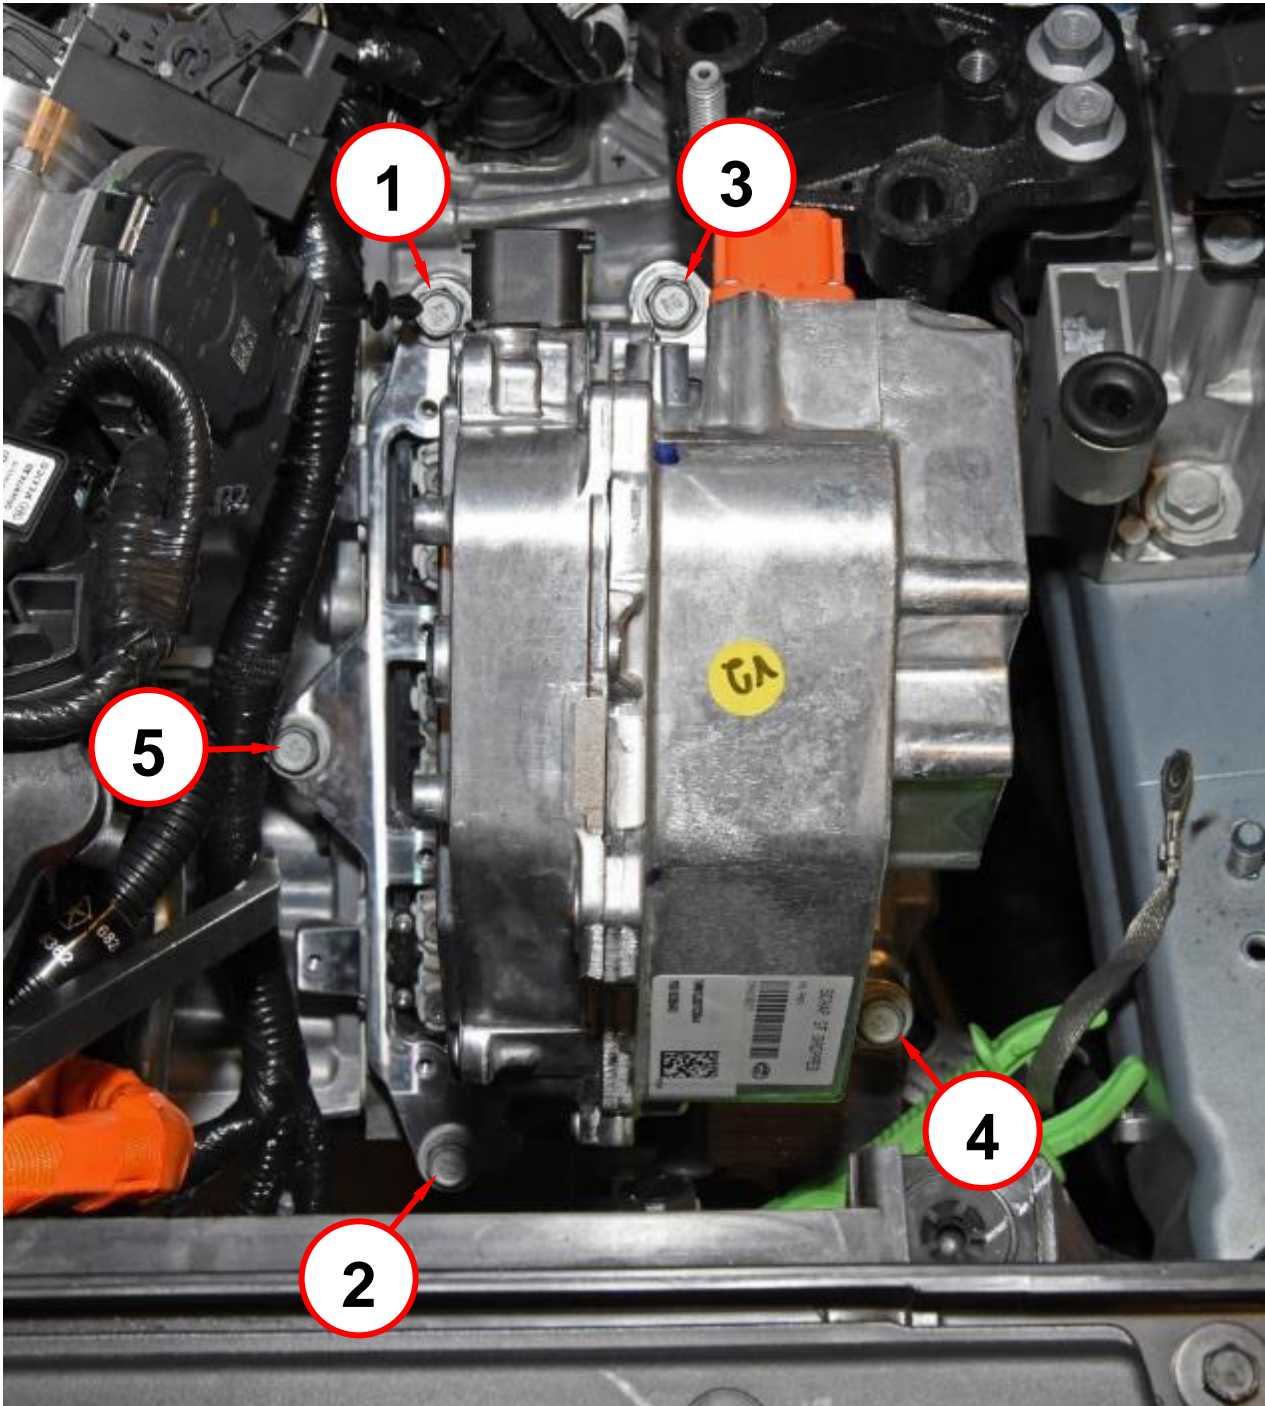

Figure 40 – PIM to Transmission Bolts Torque Sequence
2. Install the **new** PIM to the transmission housing with five bolts. Tighten the bolts in the sequence shown to 62 N·m (46 Ft. Lbs.) (Figure 40).